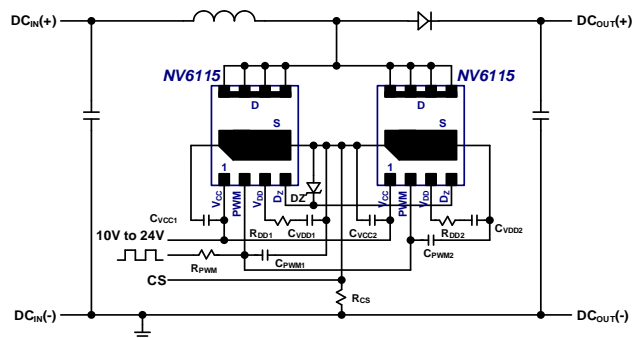

Fig.25. Boost schematic using two parallel ICs
For some applications it is desirable to parallel ICs in order to reduce conduction losses and temperatures. A maximum of two NV6115 ICs can be connected in parallel in a PFC boost application working in boundary-conduction mode (BCM) only. The parallel configuration for two NV6115 ICs is shown in Fig.25. The paired pins that are connected together include the drain pins (D), the source pins (S), the V_{CC} pins, the PWM pins, and the D_Z . A single D_Z diode can be shared by both ICs. The V_{DD} pins are not connected together and require separate V_{DD} supply capacitors (C_{VDD1} , C_{VDD2}) and separate turn-on current set resistors (R_{DD1} , R_{DD2}). Each IC should have its own local V_{CC} supply filter capacitor (C_{VCC1} , C_{VCC2}). The PWM pins can have a single filter resistor (R_{PWM}) but separate filter capacitors (C_{PWM1} , C_{PWM2}) should be placed at the PWM pin of each IC. When designing the PCB layout for the two paralleled ICs, the drain and source connections should be made as symmetrical as possible two avoid any parasitic inductance or capacitance mismatch. A proper PCB layout example for paralleling is shown in Section 11.